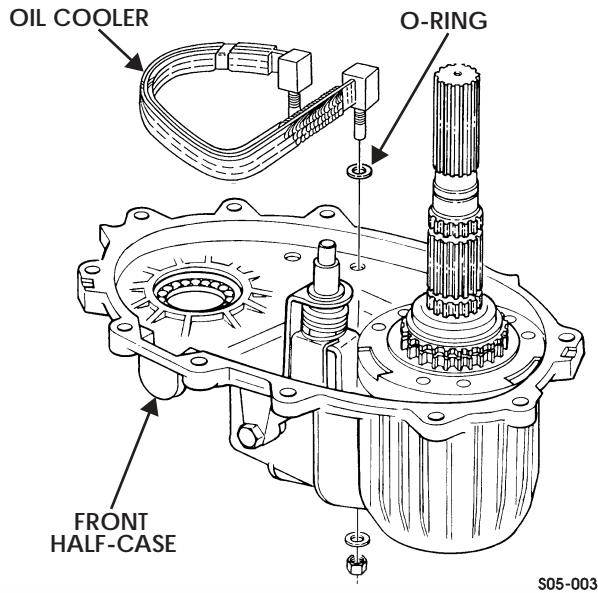

Figure 5-179: Oil Cooler
24. Install two O-rings and oil cooler in front half-case with two washers and nuts (Figure 5-179).